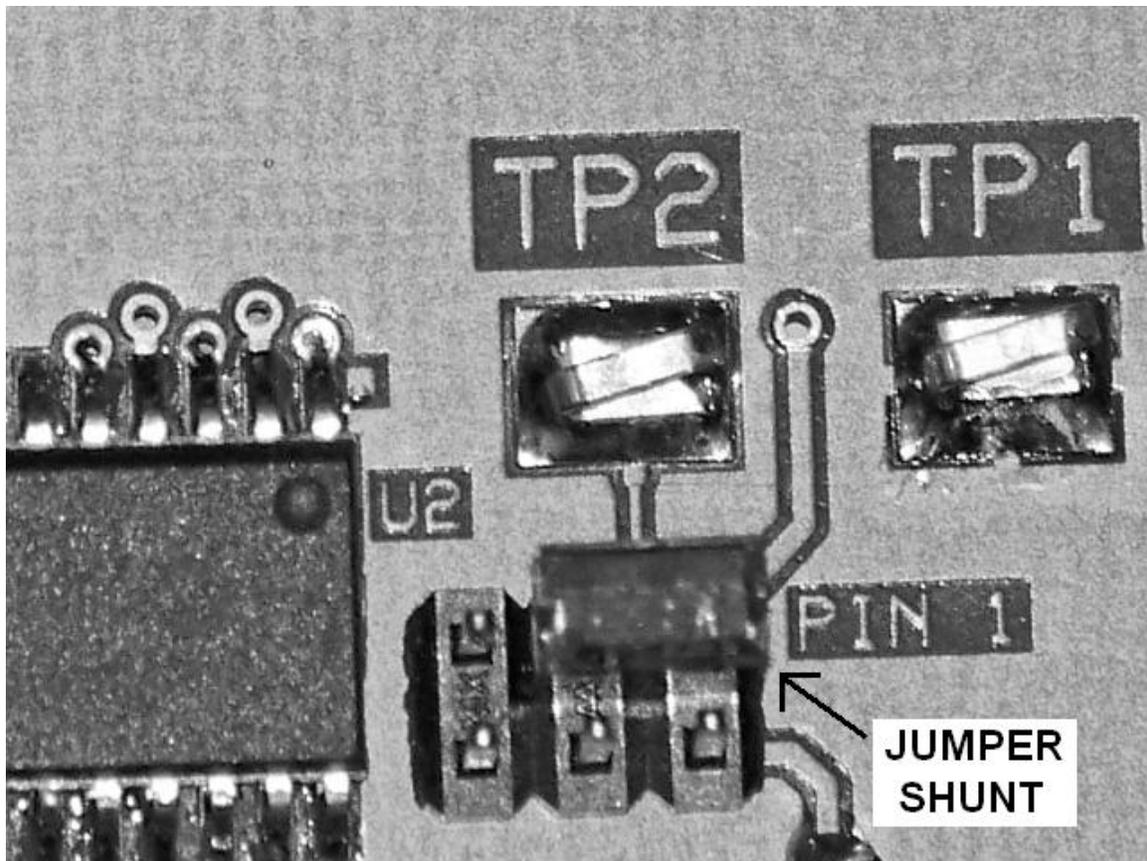

Figure 1 (BC-8000 will not have the IC chip U2 shown on the left)
2. Locate the display circuit board located on the inside of the front panel and REINSTALL the plastic jumper shunt across pins 1 & 3. See Figure 1 for the location of the jumper shunt.